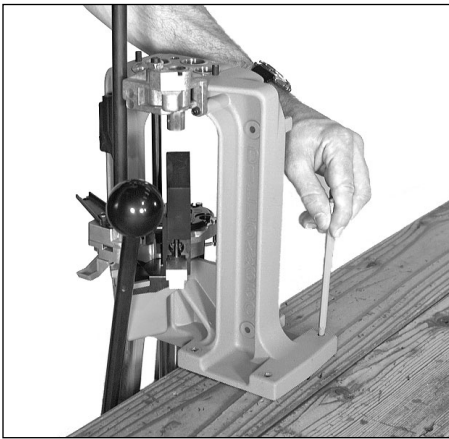

FIG 1
C. Drill the mounting holes FIG 1: